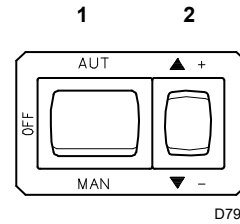
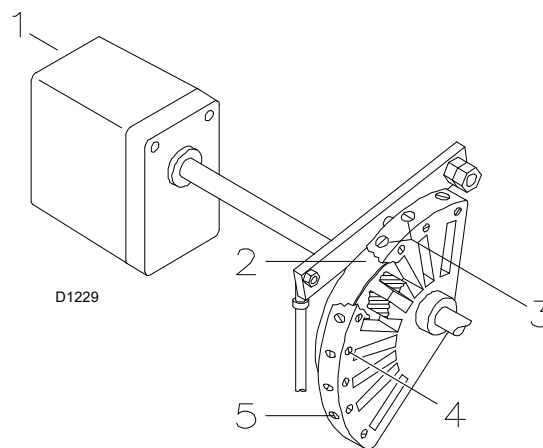
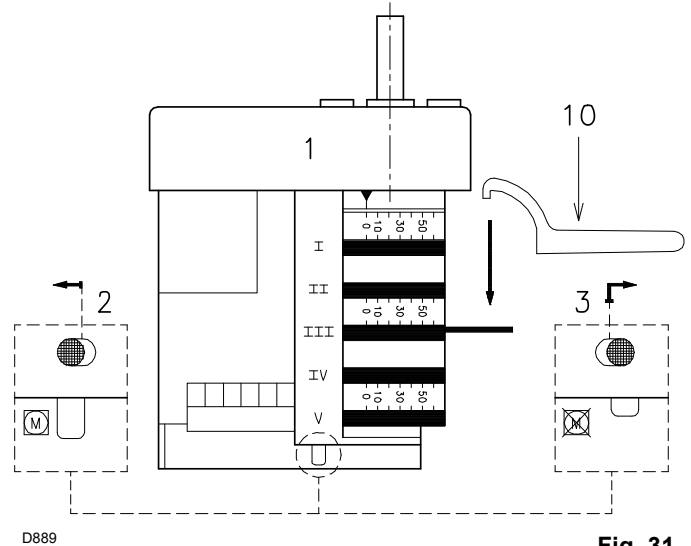

Fig. 27
Fig. 30
Fig. 31
- Start the burner by closing the control devices with switch 1)(Fig. 27) in the "MAN" position. As soon as the burner starts, check the direction of rotation of the fan blade, by looking through the flame inspection window 18)(Fig. 4 on page 10).
- The pump can be considered primed when the light oil starts coming out of the screw 3). Stop the burner: switch 1)(Fig. 27 on page 24) set to "OFF" and tighten the screw 3).
Turn off the remote controls and set the switch 1)(Fig. 27) to "MAN".
In the above instructions we left the burner running in MIN output operation. Now press button 2)(Fig. 27) "+" until servomotor arrives at 130°.
Progressively adjust the end profile of cam 2)(Fig. 30) using adjustment screws 5).
Press button 2)(Fig. 27 on page 24) “output reduction“ and keep it pressed until the servomotor has reached 20° (factory setting).
Progressively adjust the starting profile of cam 2)(Fig. 30) by turning the screws 3).
Press the switch 2)(Fig. 27 on page 24) “output increase“ a little so that the servomotor turns by about 15°. Adjust the screws until optimal combustion is obtained. Proceed in the same way with the other screws.
Switch the burner off with switch 1)(Fig. 27 on page 24), at the OFF position, disengage the cam 2)(Fig. 30) from the servomotor, by pressing the button 3)(Fig. 31) and moving it to the right, and check more than once that the movement is soft and smooth, and does not grip, by rotating the cam 2) forward and backward by hand.
Engage cam 2) to the servomotor again by moving button 2)(Fig. 31) to the left.
Finally fix the adjustment by turning screws 4)(Fig. 30).
In order to adjust cam III, especially for fine movements, key 10)(Fig. 31), held by a magnet under the servomotor, can be used.
- 6 s :** Servomotor starts: 130° rotation to right, until contact is made on cam I)(Fig. 31 on page 26).The air gate valve is positioned on MAX. output.
- 85 s :** Servomotor rotates to left until contact is made on cam III) (Fig. 31 on page 26).
- The burner locks out when demand for heat is less than the heat supplied by the burner in the MIN output (section F-G). Load control TL opens. The servomotor returns to the 0° angle limited by contact with cam II)(Fig. 31 on page 26). The gate valve closes completely to reduce thermal dispersion to a minimum.
Disengage the cam 2)(Fig. 31 on page 26) from the servomotor, by pressing and moving button 3)(Fig. 31 on page 26) towards the right, and turn it backwards and forwards by hand to make sure it moves freely. Now engage the cam again by moving the button 2)(Fig. 31 on page 26) to the left.